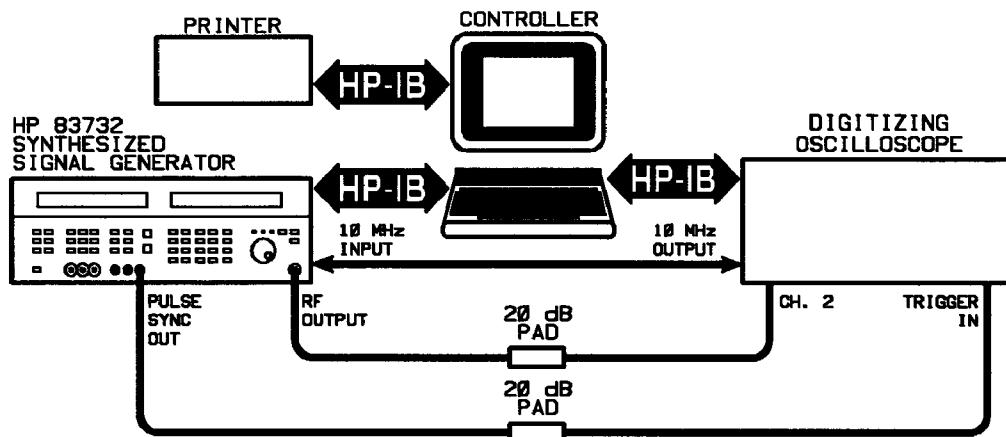

Figure 7-15. 0.01—1 GHz Pulse Calibration Equipment Setup
1. Set up the equipment as shown in Figure 7-15.